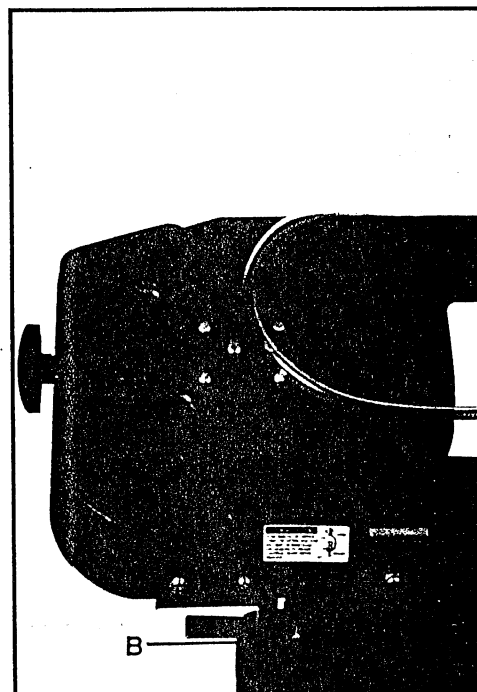

Fig. 16
1. If the saw completes the cut and continues to run, adjust the stop tip (A, Fig.16) down.
2. If the saw shuts off before the cut is complete, adjust the stop tip (A) up.
3. If the saw stops cutting but continues to run, adjust the stop bolt (B).